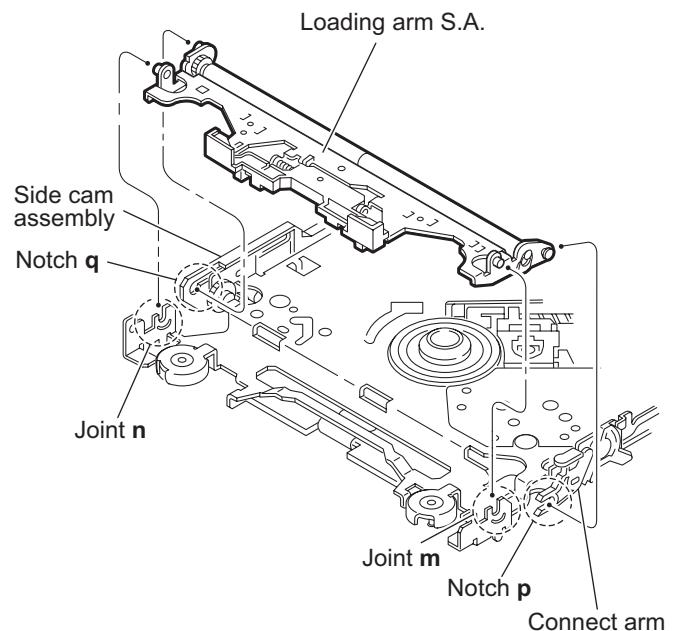

Fig.14
- (3) Release the boss from notch **p** of the connect arm on the right side of the body, and release the boss from notch **q** of the slide cam assembly on the left side. (See Fig.14)